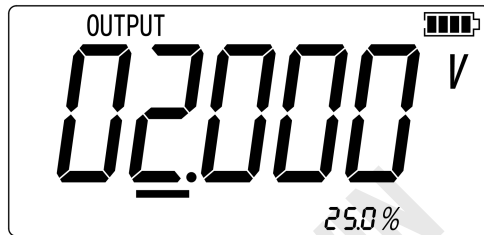

Figure 2.1-5
9. Press \leftarrow 25% or \rightarrow 25% to step between 0 and 100% in 25% step increments. The screen will display as shown in Figure 2.1-5.